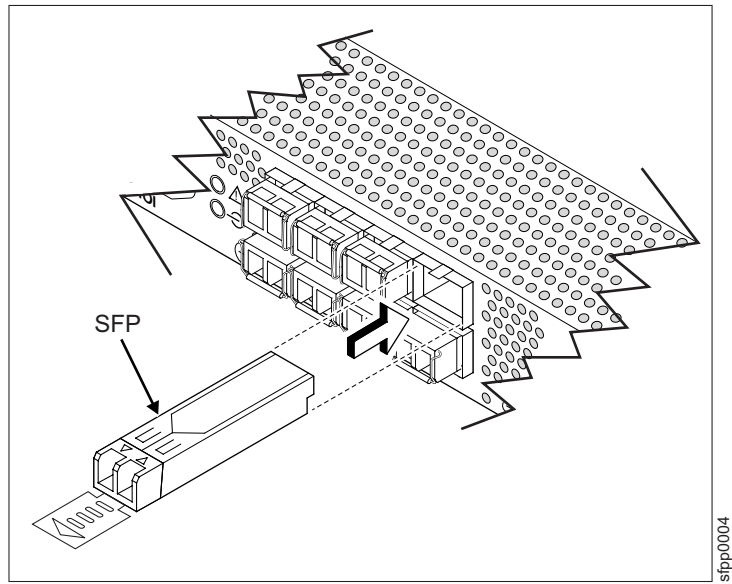

Figure 15. Installing a plastic tab type SFP
4. Hold the SFP correctly oriented towards the port as shown in Figure 15 on page 39 and Figure 16 on page 40 (for wire bale type SFPs, make sure the bale is open, in the unlocked position, as shown in **1** of Figure 16 on page 40). Slide the SFP into the port until you feel it click into place. For the top row of ports, SFPs will be oriented as shown. To install SFPs in the bottom row of ports, orient the SFPs with the plastic tab or wire bale on the top.
6. Repeat this procedure for the remaining SFPs and ports, as required. For the top row of ports, SFPs will be oriented as shown in Figure 15 on page 39 and Figure 16. To install SFPs in the bottom row of ports, orient the SFPs with the plastic tab or wire bale on the top.